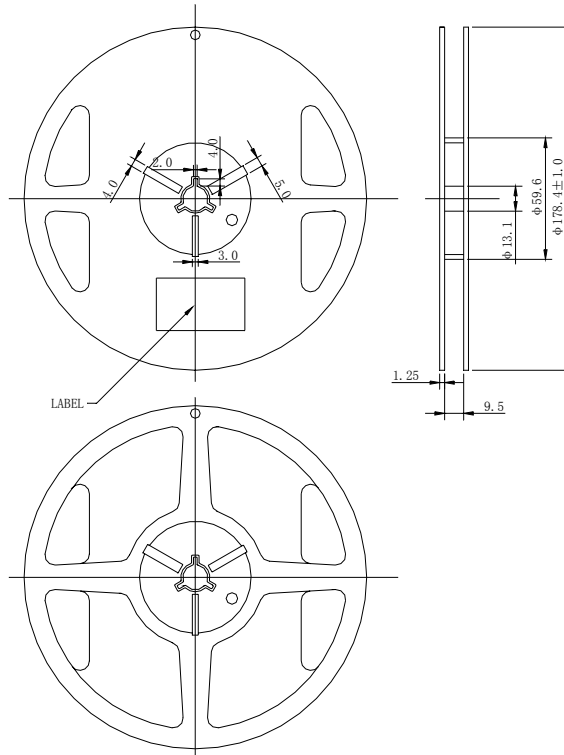

Fig.1
- 1) Packing material: Reel (Fig. 1)